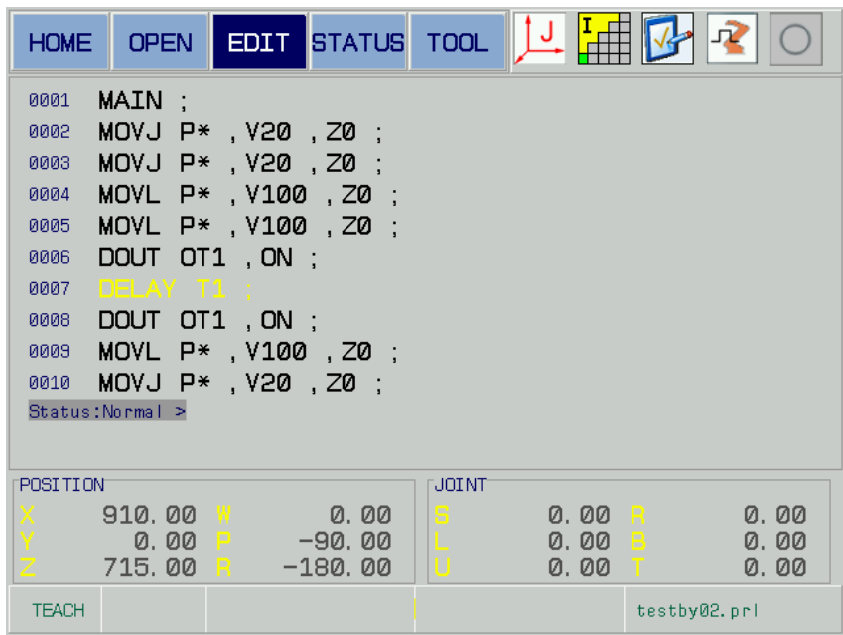

Fig. 5-31
4. Complete the command addition by [CANCEL] after time setting is performed, and then retreated from the Normal mode; refer to Fig. 5-31.